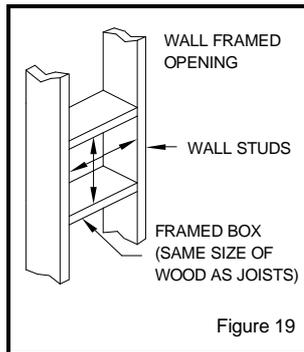

Figure 19
1. **The minimum distance between the bottom of the support and any horizontal combustible (including the ground) is 6". This distance can be reduced to 2 inches by using an insulated twist-lock tee cap (IC) in conjunction with a (AWS) adjustable wall support.**
- ◇ For combustible wall, cut and frame a hole 4" larger than the chimney, midway between the wall studs (see Fig. 19).